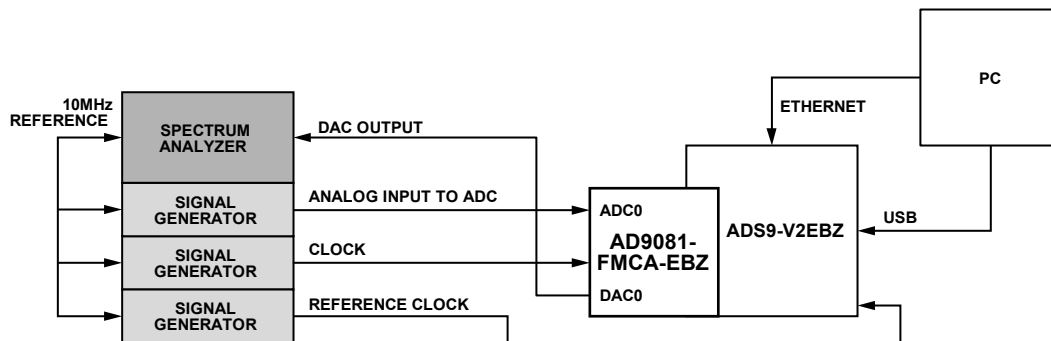

Figure 24. Hardware Setup for Using the Chip View (10 MHz Reference Connection)
1. Set up the evaluation board hardware and instrumentation as shown in Figure 24.